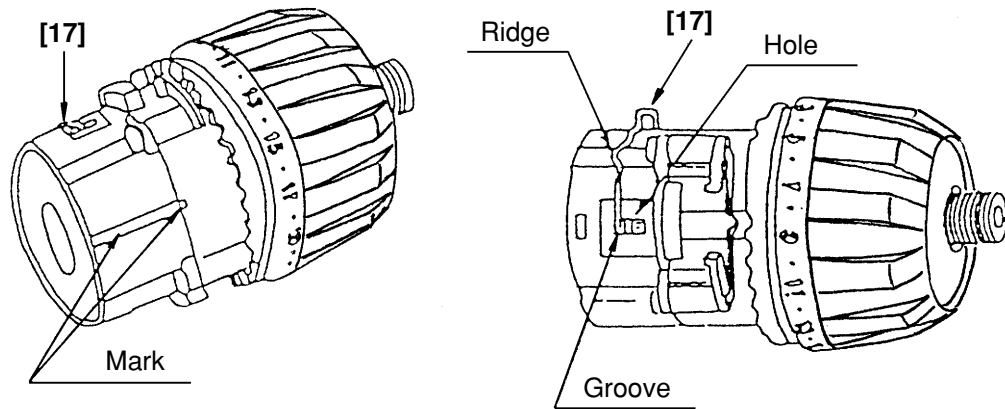

Fig. 12
- (ii) Install the Front Case [9] and the Rear Case [15] together with the mark on the Front Case [9] aligned with the mark on the Rear Case [15]. (See Fig. 12.)
With the ridge at the Shift Arm [17] facing the Motor [26] side, first install them on the unmarked side of the assembly reassembled in step (c). Then insert the projections on the Shift Arm [17] into the holes in the Rear Case [15] and make sure that the projections are fitted into the grooves in the Slide Ring Gear [18] mounted within the Rear Case [15]. (See Fig. 12.)